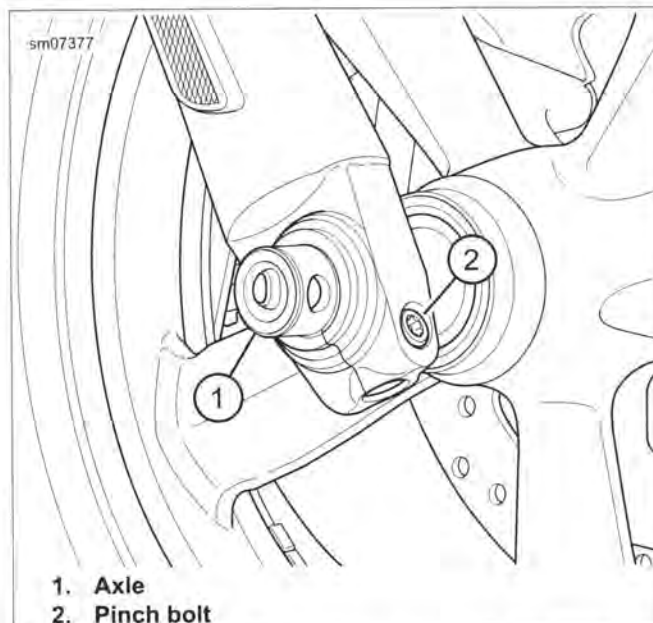

Figure 2-12. Front Wheel Mounting: FLD (Right Side)
- FLD:** See Figure 2-12. Tighten front axle pinch bolt to 18-22 ft-lbs (24.4-29.9 Nm).